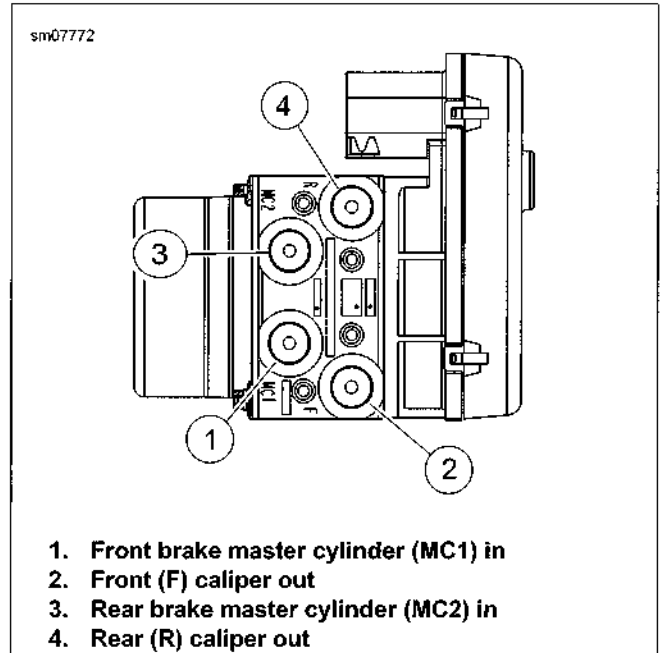

Figure C-5. Brake Fluid Line Connections
- See Figure C-5. Install brake line banjo fittings.